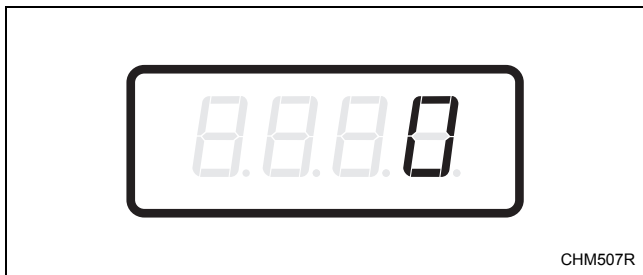

Figure 6
4. When “PLSE” appears in the display, press the START (enter) keypad. There are five digits in the Start Pulse Value. The fifth digit will appear in the display and will flash one second on and one second off. Refer to *Figure 6*.